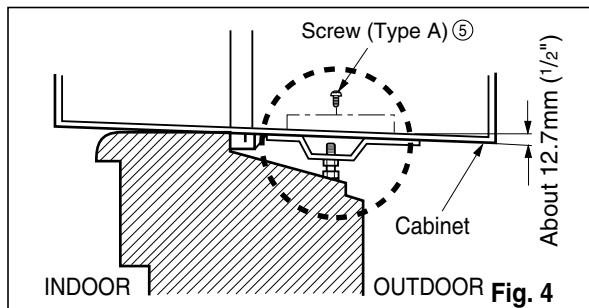

Fig. 4
4. Select the position that will place the sill support near the outer most point on sill (See Fig. 4)
5. Attach the sill support to the cabinet track hole in relation to the selected position using 2 Type A screws in each support (See Fig. 4).